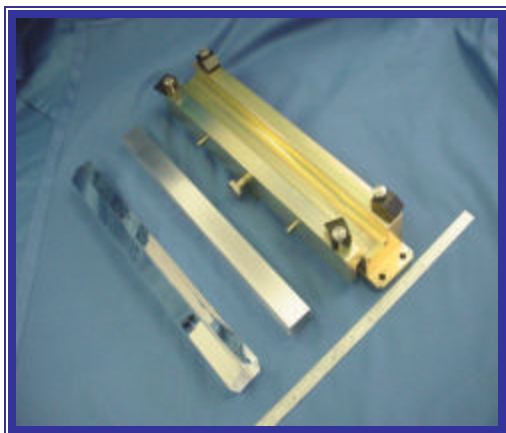

Figure 5: CDE Wrapping Fixture, Formed Film & Sample CDE Log
- 1) Retrieve a bonded CDE for the wrapping process. Transport the CDE from one workstation to the next by using approved ESD sensitive carrying containers that cradle the crystal along its entire length. Be sure that the CDE is constrained properly and is not allowed to slip, slide or bang against other surfaces within the container. Figure 5 shows the items that will be necessary for this section of the procedure.